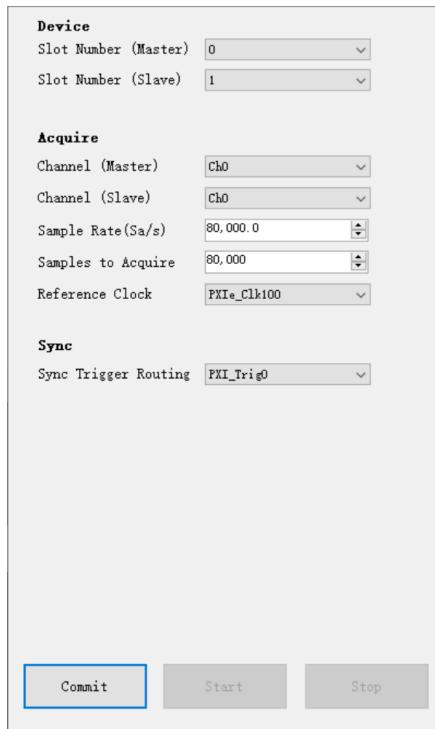

Figure 57 Parameters of multi-device sync
- Open **Wiform AI Multi-Device Sync**, set the following parameters as shown in Figure 57.